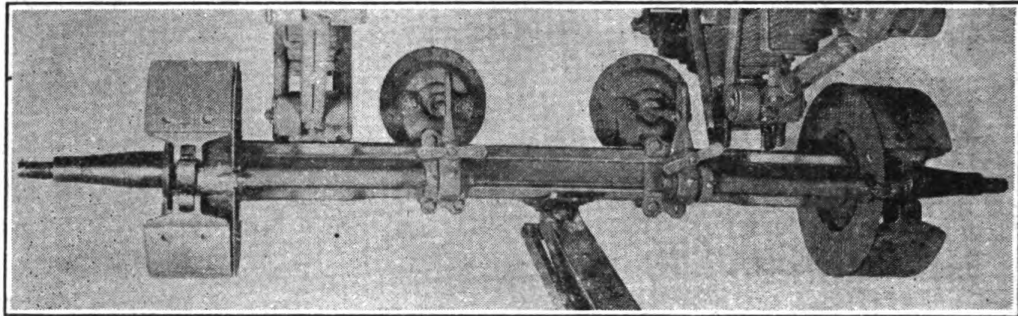

FIGURE 17. AXLE REMOVAL—DOLLY.
5. **AXLE REMOVAL—DOLLY (Fig. 17).**—*a.* Fasten chain hoist to dolly frame using a double spread chain. Place a mobile jack under center of axle.